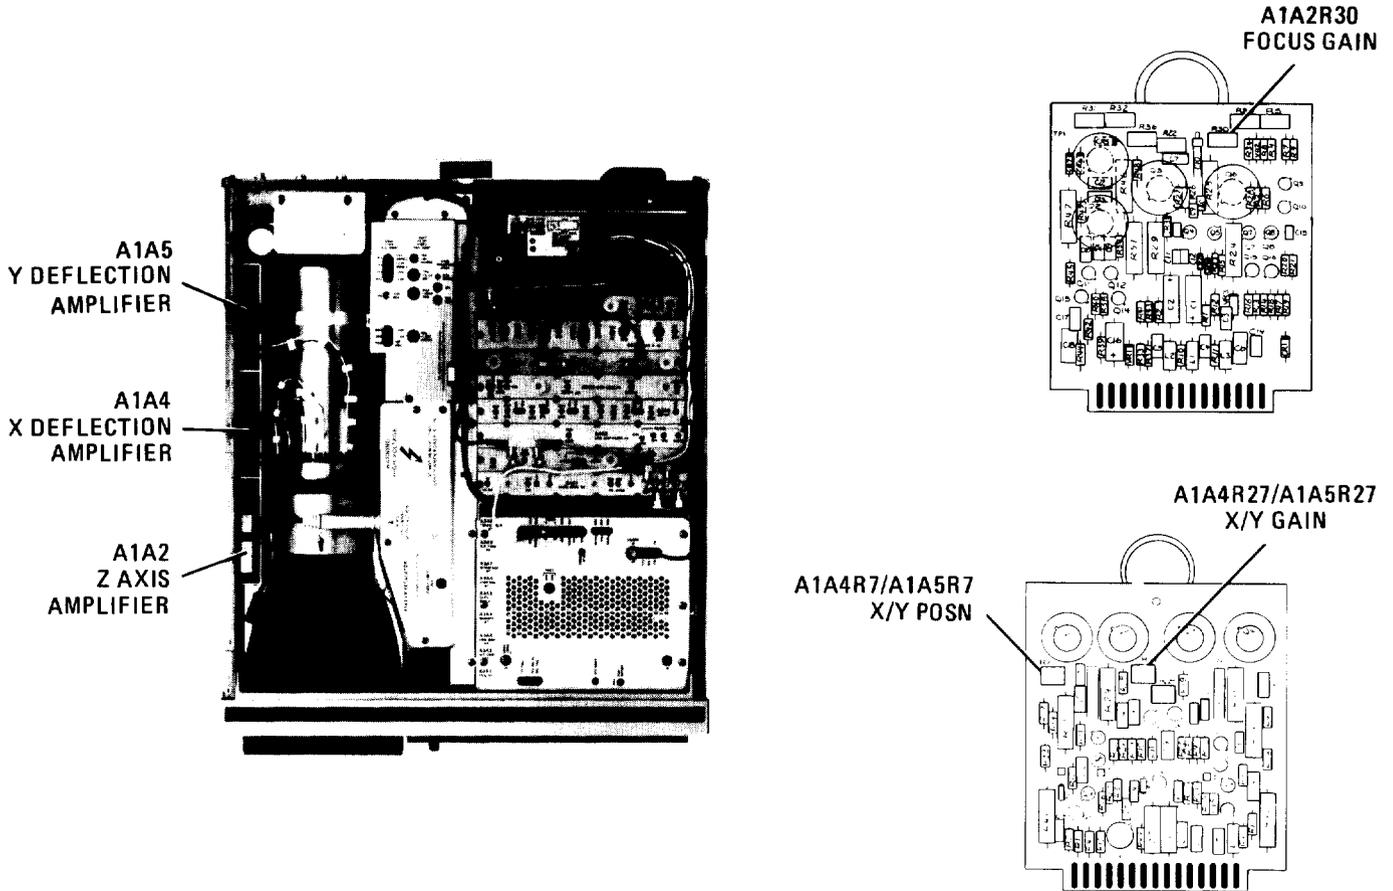

FIGURE 18. LOCATION OF FINAL DISPLAY ADJUSTMENTS
7. Adjust A1A2R30 FOCUS GAIN for a larger peak-to-peak deviation in pulse on oscilloscope display. Refer to Figure 18 for location of adjustment.
12. Adjust A1A4R27 X GAIN, A1A4R7 X POS, A1A5R27 Y GAIN, and A1A5R7 Y POS for optimum rectangular display of graticule on CRT. Refer to Figure 18 for location of adjustments.